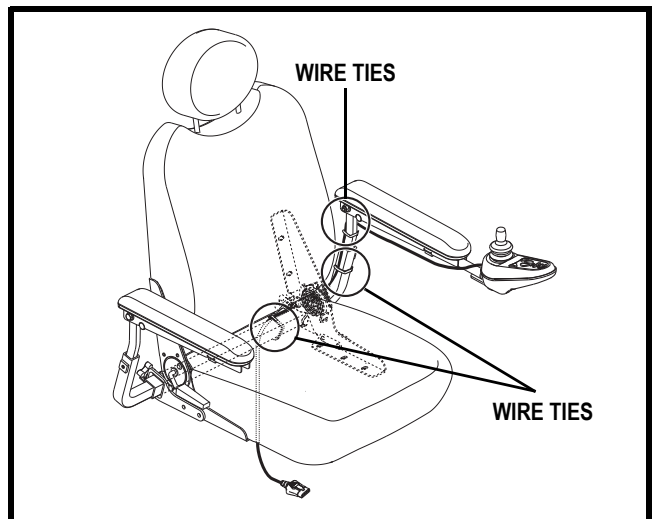

Figure 13. Controller Harness Routing on a Contour Seat
5. Route the controller harness so that it cannot be pinched in the seat hinge and secure the controller harness with wire ties. **See figure 13.**
16. Secure the controller harness to the armrest receiver with one or more wire ties. See **figure 13**.